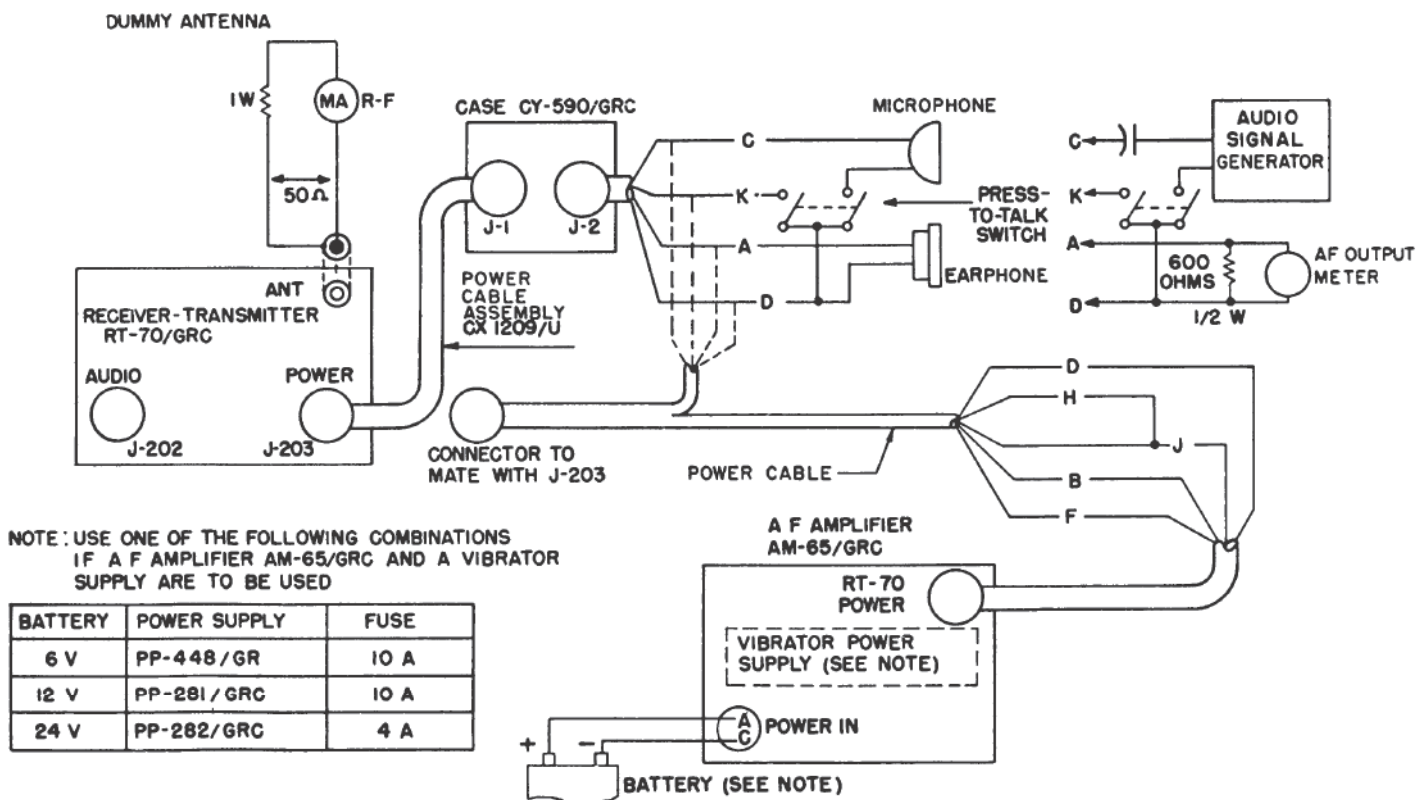

Figure 34. Test setup for operational and troubleshooting checks.
(fig. 34)
connectors are summarized in figure 34. Internal connections for meters, test signal generators, shunting units, etc., are to be made as called for in individual test procedures. Figure 34 shows two basic arrangements for connecting power and audio devices to the receiver-transmitter under test. In one arrangement, power for operating the set may be obtained from dry batteries installed in Case CY-590/GRC. In the other arrangement, power is obtained from a storage battery through a vibrator type power supply unit (Power Supply PP-448/GR, PP-281/GRC, or PP-282/GRC) installed in AF Amplifier AM-65/GRC. The connection of the audio devices or corresponding meters and test signal generator depends on whether or not a plug is available to mate with the 9-pin AUDIO connector on the receiver-transmitter panel. The test connections are described in *a* and *b* below for the two cases.
- (1) *Power connections.*
- (2) *Audio devices.* The audio devices (microphone and earphone or audio signal generator and test meter) may be connected either to the AUDIO connector on the receiver-transmitter panel or as shown in figure 34 to 9-pin connector J2 on Case CY-590/GRC.
- (3) *Dummy antenna load.* Prepare the dummy antenna load as described in paragraph 50 and plug it into the ANT connector on the front panel of the receiver-transmitter.
- (a) See that the voltage of the storage battery, the voltage rating of the power supply unit, and the rating of the fuse installed in the fuse holder within AF Amplifier AM-65/GRC all agree. Refer to the table on figure 34.
- (f) Prepare a power cable as described in paragraph 49d (power leads shown in figure 34, with a 9-pin connector—male plug-in type terminals—at each end) and connect it between the POWER connector on the receiver-transmitter and the RT-70 POWER connector on the amplifier unit.
- (2) *Audio connections.* The audio devices (microphone and earphone or audio signal generator and meter) may be connected to either the AUDIO connector on the front of the receiver-transmitter directly, or the audio terminals of the POWER connector on the receiver-transmitter panel, depending upon whether or not the 10-pin compression type male connector is available.